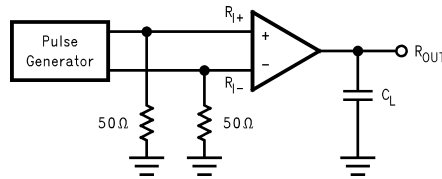
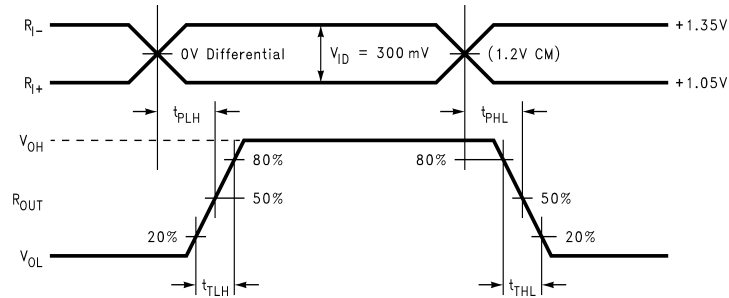

Figure 6. Receiver Propagation Delay and Transition Time Test Circuit
Figure 7. Receiver Propagation Delay and Transition Time Waveforms
| $t_{PHLDR}$                                      | Differential Prop. Delay High to Low (3)   | Figure 6, Figure 7,$C_L = 15\text{ pF}$                       | 1.6  | 2.4  | 3.2 | ns   |    |